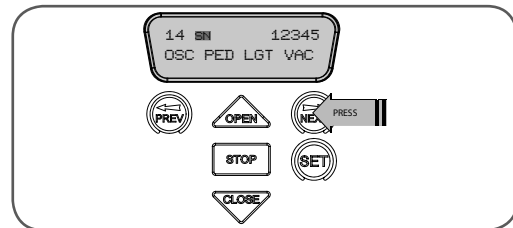

fig 31
5. Press NEXT to reveal the Serial Number (Fig. 31).